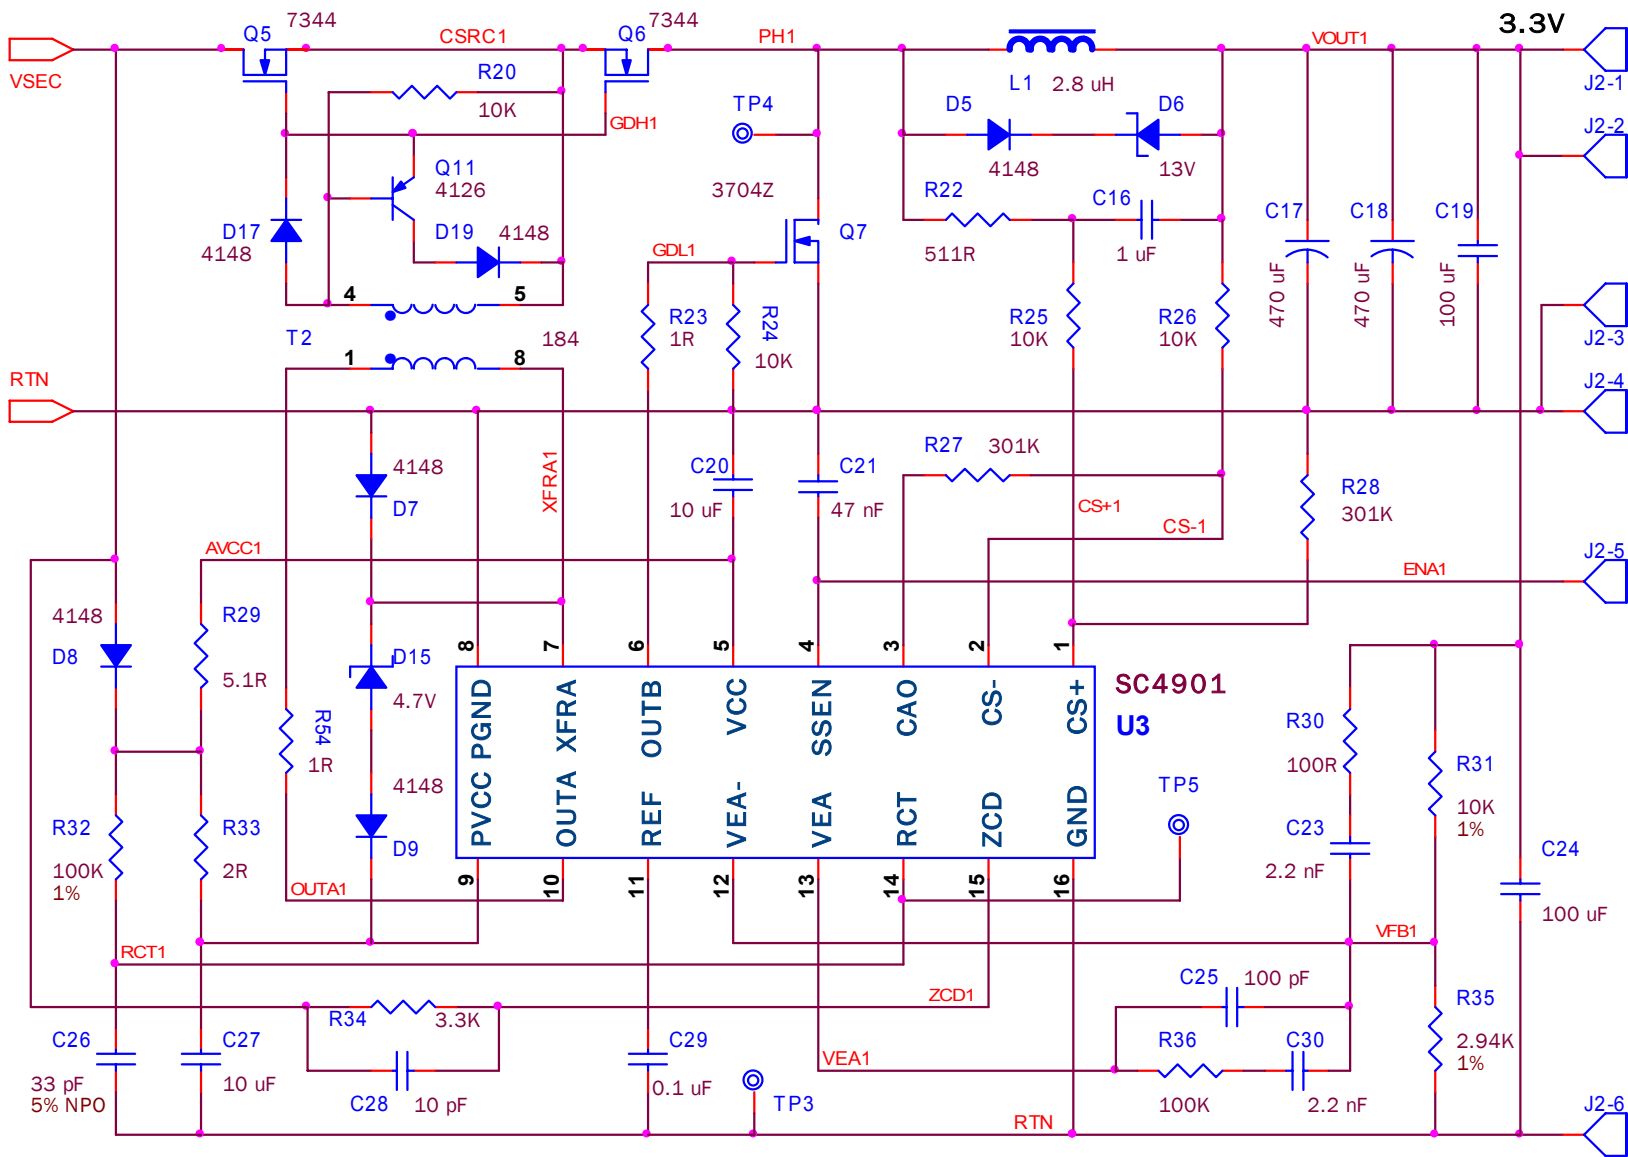

Fig 4) Complete secondary side schematic for a 3.3V/10A output.
The complete schematic of a secondary channel delivering 3.3V/10A is shown in Fig 4). Typical waveforms are shown in Figs 5) to Fig 8). These waveforms were taken on a dual output convertor with 48V input and a transformer turns ratio of 6:1. Both outputs were generated off a single secondary winding. The primary topology was a free running, active reset, forward convertor operating at 225 kHz. Volt second control was implemented using input feedforward with a maximum duty ratio of 65% at 40V input. The two outputs were rated at 3.3V/13A and 2.5V/13A for a total of 75W power. Of special interest are the primary side waveforms shown in Fig 8). The zero current turn on can be clearly seen. During turn off, the current decreases as 2.5V forward FETs turn off first, followed by 3.3V output. The last small step at final turn off represents the magnetising current in transformer primary.
g) The no load condition at the output needs special consideration in this topology. Under light load, the inductor current is negative as in any synchronous rectifier. When the synchronous MOSFET QR is turned off, the current is interrupted and tends to charge the drain source capacitor of QR. The back to back connected forward FETs prevent this current being returned to the source. The resulting overshoot on QR can be clamped by connecting a zener and diode combination across the inductor as shown in Fig 4). The zener clamp conducts *only* during the dead time and also provides a small benefit of reducing the voltage across the forward FETs during turn on. The detailed application schematic in Fig 4) shows diode D1 and zener D2 connected across the output inductor L1 to reduce the no load spike.